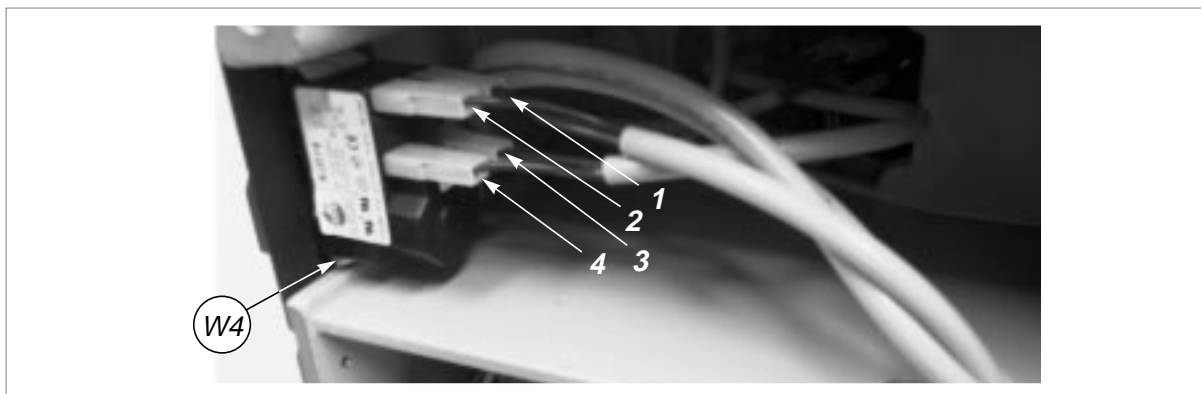

Fig. 26
- 3) Detach the various connectors (1, 2, 3, 4) paying careful attention to their positions (fig.26).
- 7) Replace the bottom safety plate and fix with the 7 screws (W) and 2 feet. Fit the swarf tray.